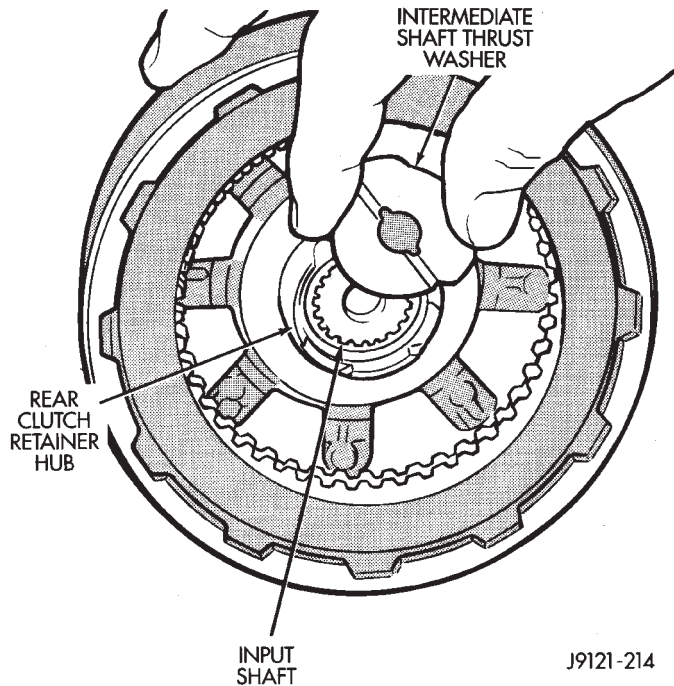

Fig. 126 Installing Intermediate Shaft Thrust Plate
(14) Coat intermediate shaft thrust washer with petroleum jelly. Then install washer in rear clutch hub (Fig. 126). Use enough petroleum jelly to hold washer in place. **Be sure grooved side of washer faces rearward (toward output shaft) as shown. Also note that washer only fits one way in clutch hub.** Note thickness of this washer. It is a select fit part and is used to control transmission end play.